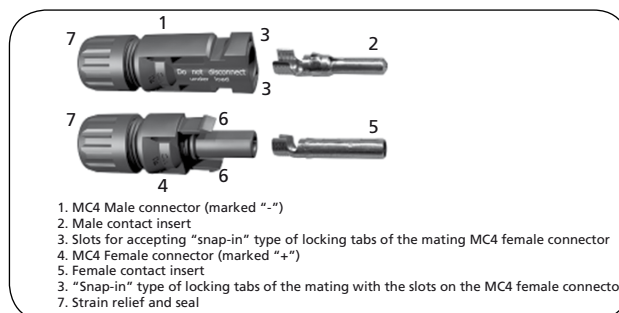

Fig. 6.2. MC4 Male and Female Connectors
6.2. MC4 Connectors (Fig. 6.2)
In the MC4 Male Connector (1 of Fig. 6.2), the internal mating contact insert (2, Fig. 6.2) is a male pin. It has two slots (3 of Fig. 6.2) for insertion of the two "snap-in" type of locking tabs (6 of Fig. 6.2) of the MC4 Female Connector (4 of Fig. 6.2) for firm mating connection. This connector is marked "-".
In MC4 Female Connector (4, of Fig. 6.2), the internal mating contact insert (5 of Fig. 6.2) is a female cylindrical socket. It has two "snap-in" type of locking tabs (6 of Fig. 6.2) that are inserted into the two slots (3 of Fig. 6.2) in the MC4 Male Connector (1 of Fig. 6.2) for firm mating connection. Wire is crimped to the contact inserts (2 and 5 of Fig. 6.2) using a special purpose crimping tool designed for MC4 connectors. After the wire has been crimped, the contact insert is required to be seated securely inside the housing and the strain relief / seal (7 of Fig. 6.2) is to be tightened fully to provide a water-tight seal.